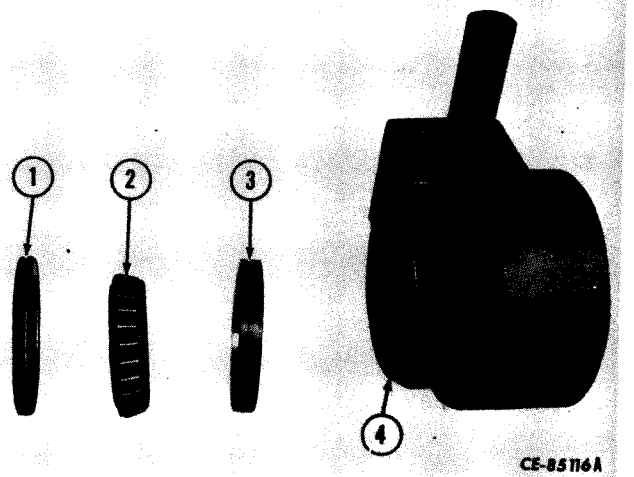

Figure 5-30
Using a flat head drift, drive the oil seal (1, Fig. 5-30), bearing cone (2), and bearing cup (3) out of the housing output end (5). Discard the oil seal.